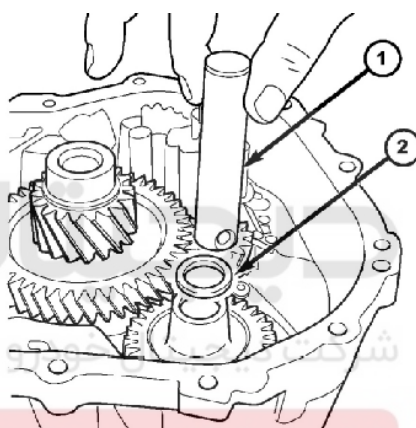

Figure 3-42 Disassembly of reverse gear shaft
(10) Draw out reverse gear shaft (Figure 3-42).